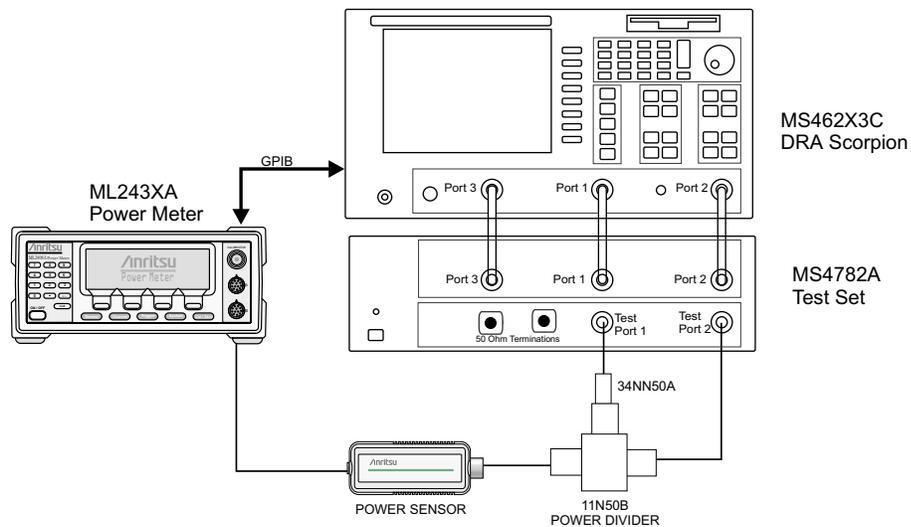

Figure 3-2. Receiver Magnitude Display Linearity Test Setup
Step 1. Set up the test equipment as shown in Figure 3-2